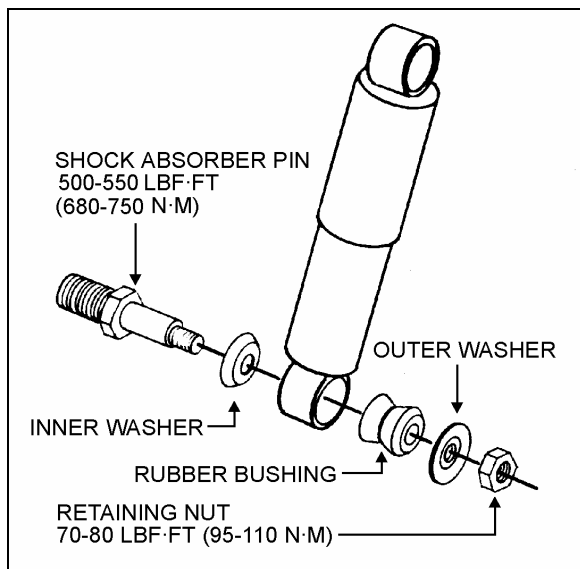

FIGURE 32: SHOCK ABSORBER
- Remove nuts and washers from shock absorbers on upper and lower mounting pins, taking care to identify the inner and outer washers to ease reinstallation. Refer to figure 32 for details.